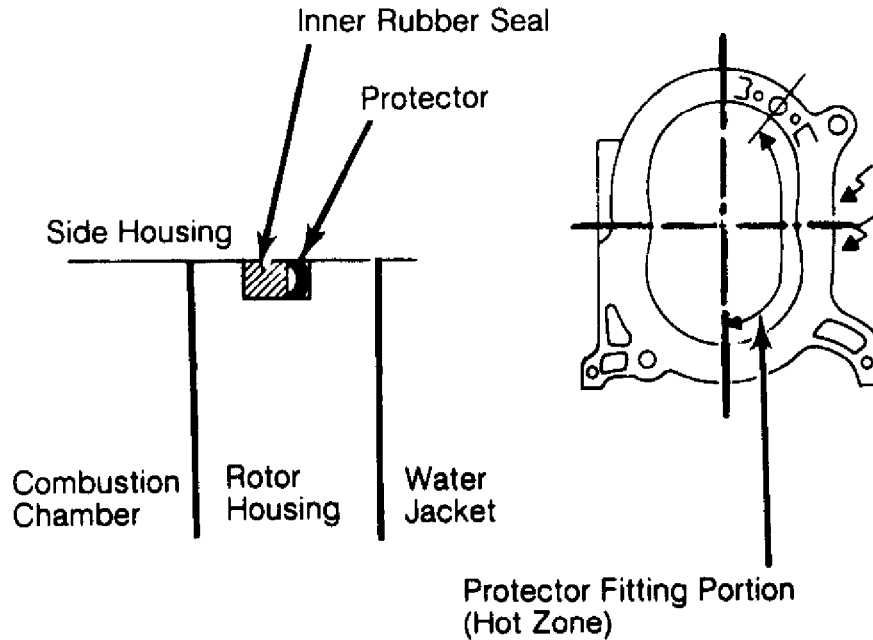

Fig. 23: Installing Protectors for Inner Sealing Rubbers
2) To provide greater durability to sealing rubbers, install a protector behind each inner sealing rubber. See Fig. 23. Install a new "O" ring, sealing rubbers and protector in front side of engine housing. Apply light coat of petroleum jelly to hold seals in place.